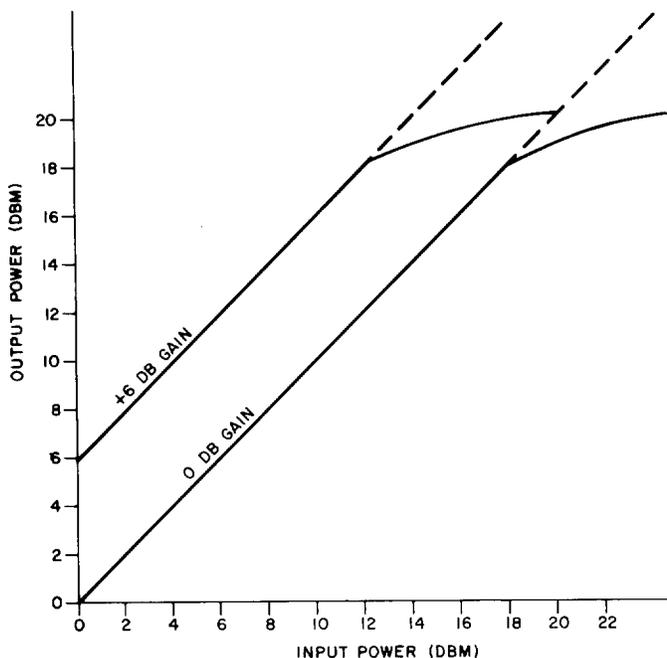

Fig. 16—Output Power Capacity of the SF Signaling/4-4 Wire Repeater
4.05 Figure 16 shows the output power capability of the J99343SF and SG repeaters. The output power is determined by the input power and repeater gain as shown by the +6 dB gain line in the figure. Power limiting occurs in this unit at about +18 dBm.